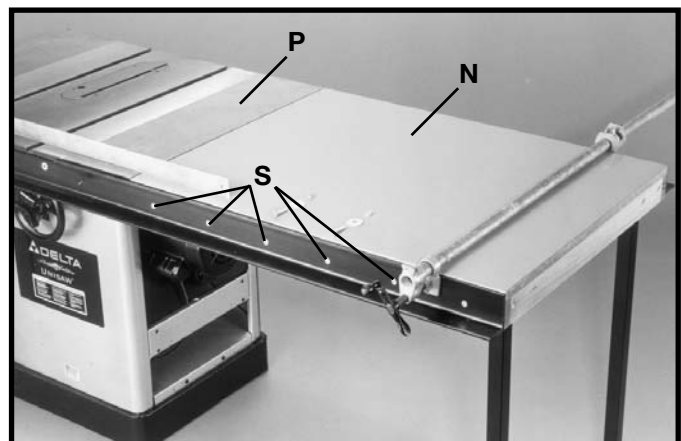
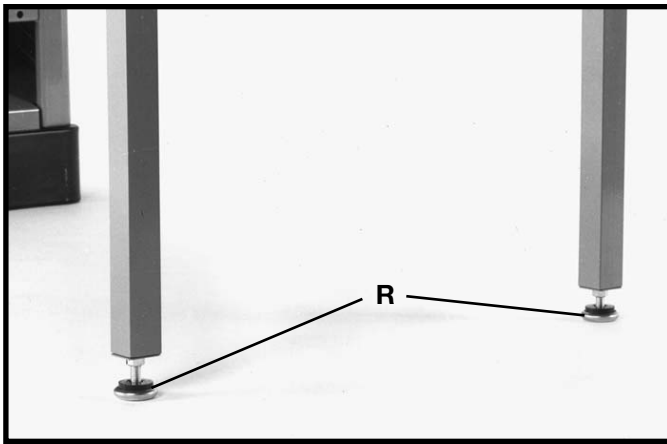

Fig. 18
Fig. 19
1. Place table assembly (N) Fig. 18, in position between the two rails, as shown. Make sure end of table (N) is flush against extension wing (P). Using a straight edge make sure table (N) is in the same plane and level with saw table (P). Lightly tap table up or down and adjust leveling screws (R) Fig. 19, in bottom of legs to accomplish this. When the table (N) Fig. 18, is level and in the same plane with saw table (P), drill 1/4" through holes (S) Fig. 18 through the front and rear of the extension table using the holes provided in rails as template.